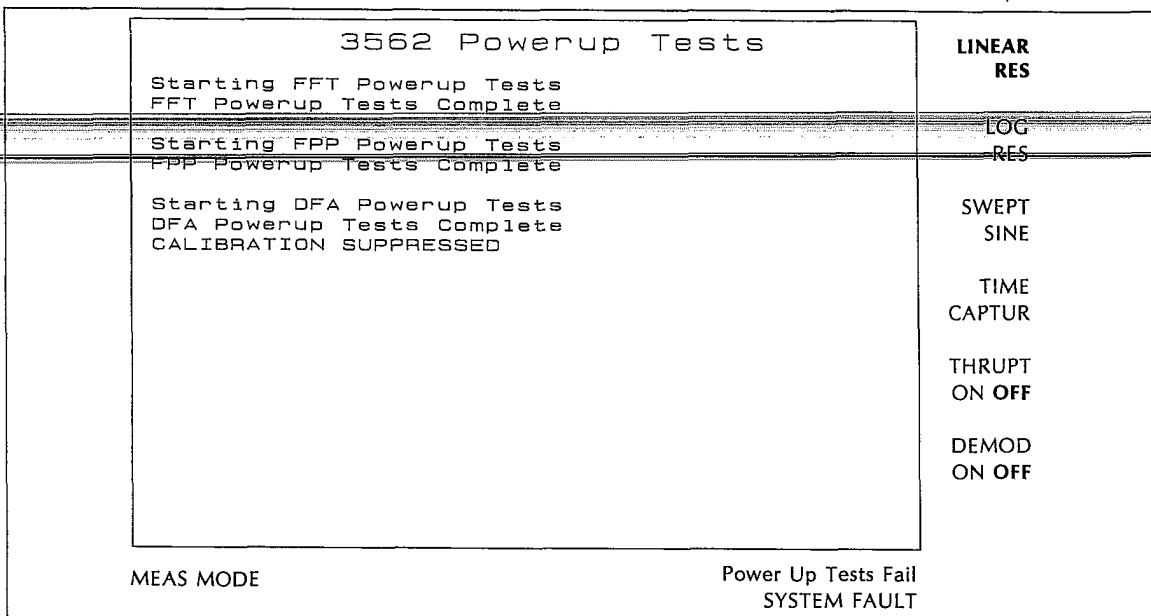

Figure 7-3 Display Active
13. The display should now appear as shown in figure 7-3. If the display is defective, the probable cause of the failure is the A8 Global RAM or A17 Display Interface (go to 8-11).
17. The soft keys should now be active and the display appear as shown in figure 7-3. Only the GLOBAL RAM and TEST KEYBD tests are valid. If the soft keys are not active or the display is defective, either the A8 Global RAM, A15 Keyboard, or A17 Display Interface is probably defective. If possible, press the keys as follows:
18. The A17 Display Interface or the display controller subblock on the A8 Global RAM may be causing the failure (the self-tests do not verify these circuits). If the display does not appear as shown in figure 7-3, refer to paragraph 8-11 to test the display interface and display controller circuits.